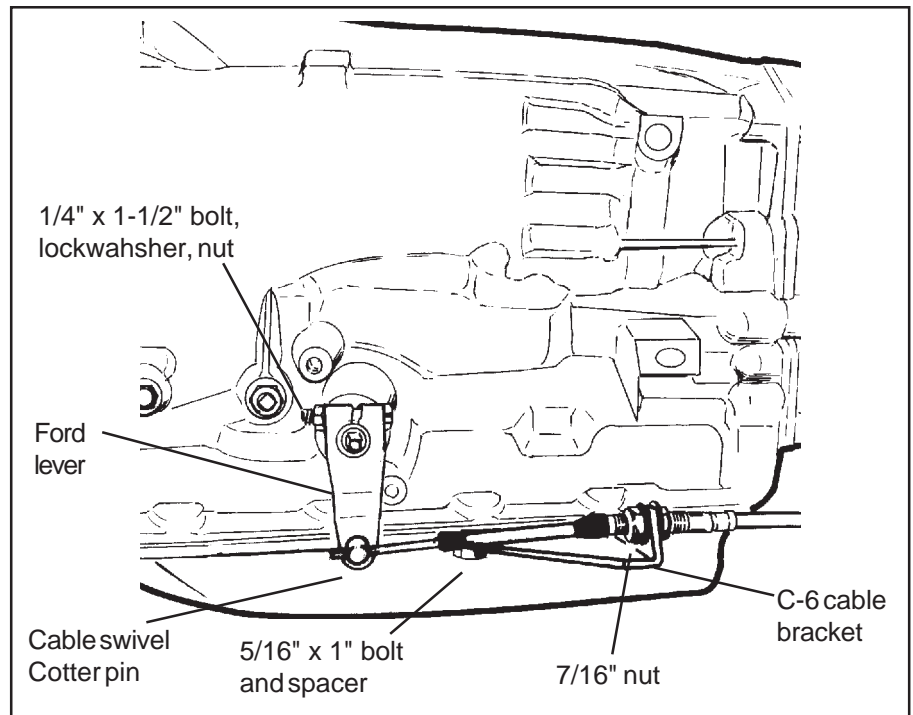

Figure 5
**C-6:** Remove the two transmission oil pan bolts from the left rear corner of the oil pan. Install the cable bracket in position (See Figure 5) with two spacers between the pan and the bracket. (If your transmission is equipped with a cast aluminum oil pan, these spacers can be omitted.) Install the two 5/16-18 x 1.00" bolts supplied and tighten to 12-13 lb-ft. Do not overtighten as this can damage the pan gasket.